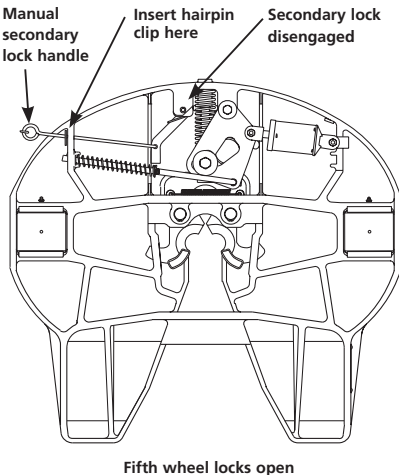

FIGURE 1
2. Make sure the secondary lock is disengaged. (See *Figure 1*).